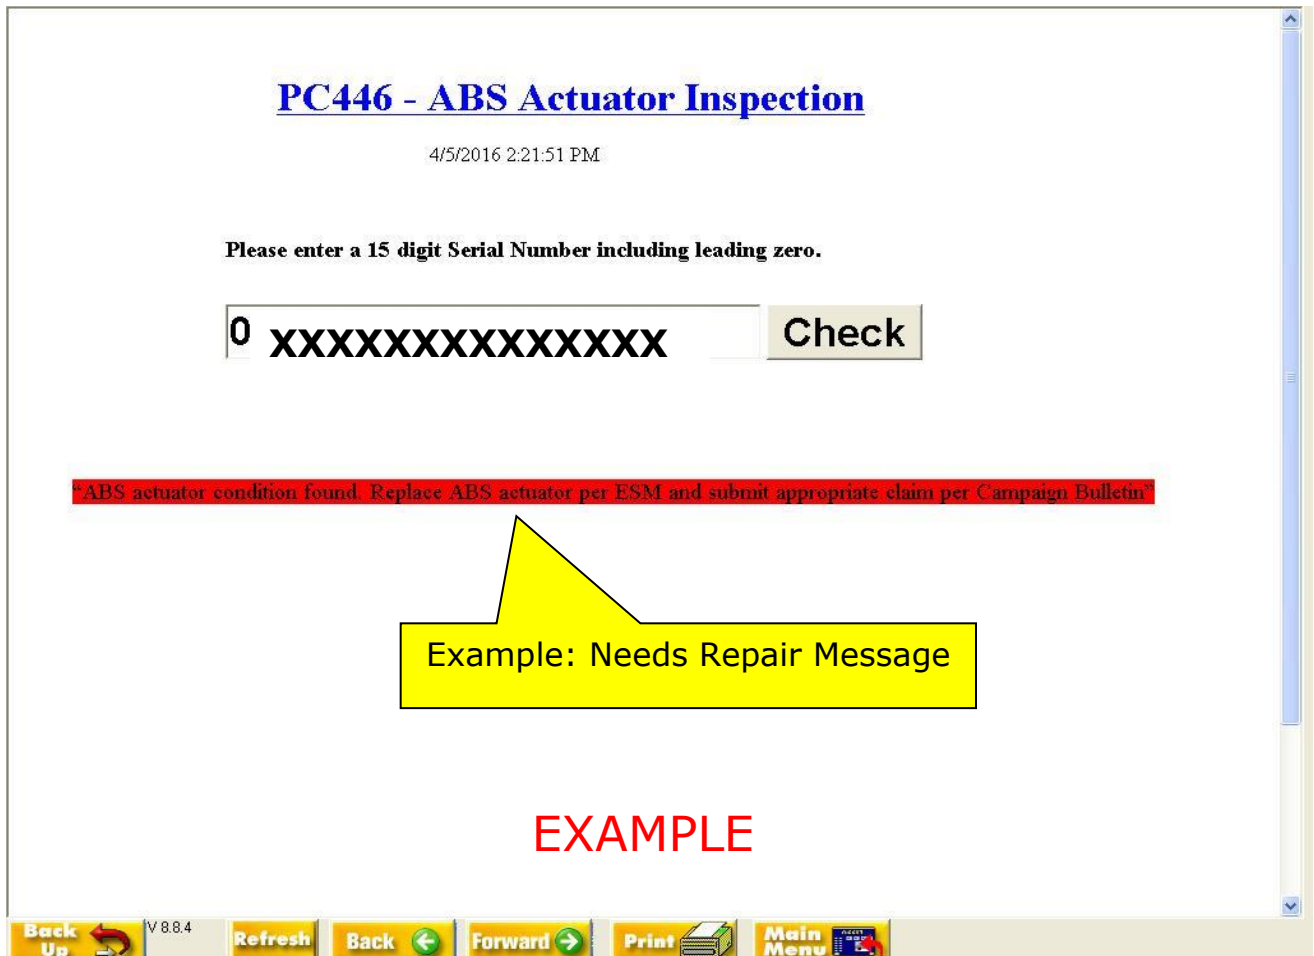

Figure 6
- If the ABS control unit needs replacement, the Needs Repair Message shown in Figure 6 will display.
9. If you get the **Needs Repair Message** as shown in Figure 6, replace the ABS control unit.